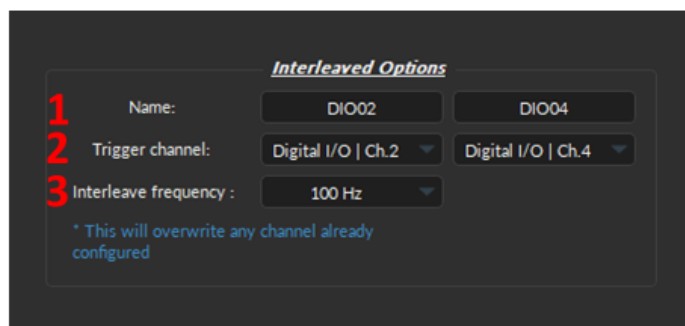

Figure 5.31: Channel(s) configuration window, Analog Input Interleaved
To use the **interleaved mode**, specify the parameters in the **Interleaved Options** section of the *Channel Configuration* window (Fig. 5.31):
1. The **Name** (Fig. 5.31, 1) lets users customize the label of the channel to increase clarity of the acquisition system.
2. The **Trigger channel** (Fig. 5.31, 2) drop-down list allows the choice of interleaved outputs (can be either digital or analog). However, once the first channel is selected, the user will only be allowed to select the same type of output (analog or digital) for the second channel.
3. The **Interleave frequency** (Fig. 5.31, 3) drop-down list allows the choice of a pre-configured frequency (either 10, 20, 50 or 100Hz) for the interleaved channels. The two selected trigger channels will be configured to function at the chosen frequency.